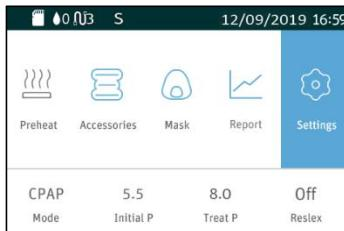

Fig. 16-2
**Note:** The above interface is only applicable to the device and does not activate the SmartC or SmartA. If the SmartC or SmartA is enabled, the symbol **S** will appear in the status bar at the top of the screen, as shown in Fig. 16-2.
**Note:** As the humidity levels is off, the Preheat Function Icon will become gray, as shown in Fig. 16-2.